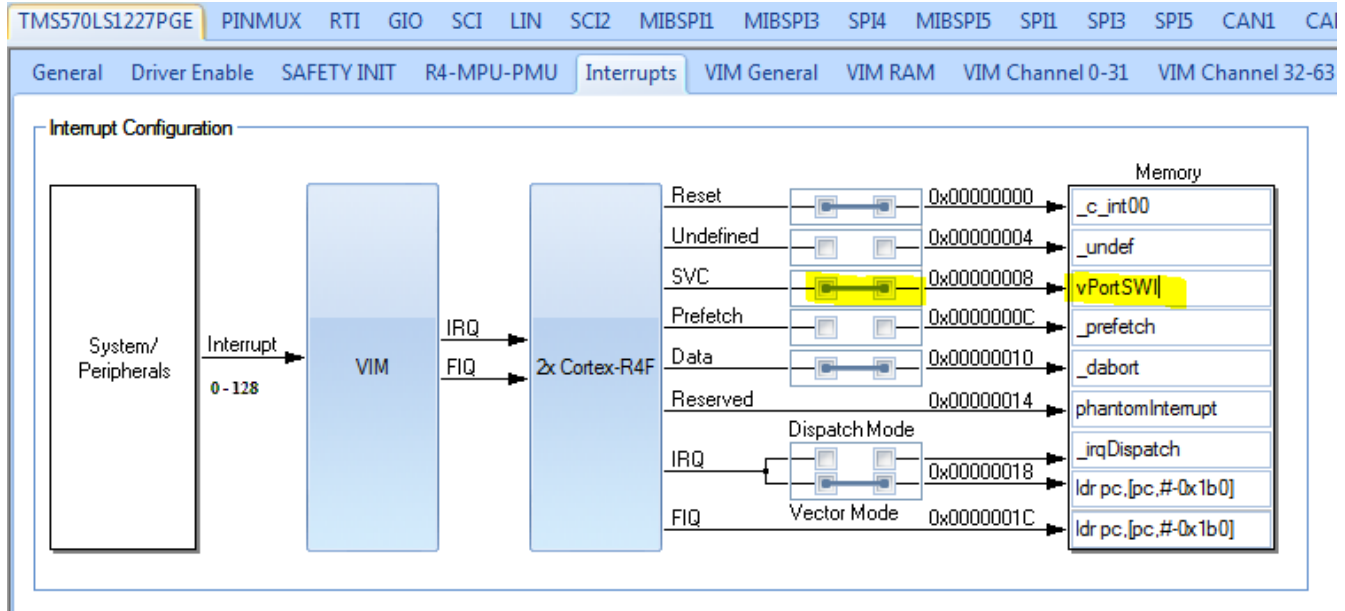

Figure 4-6. Enable PortSWI
6. FreeRTOS also uses the SVC exception. Enable the exception handler as vPortSWI, as shown in Figure 4-6.